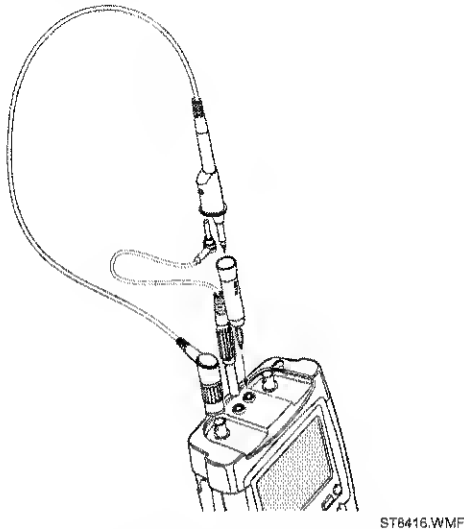

Figure 5-9. 10:1 Probe Calibration Connection
1. Connect the red probe from the red Input A BNC to the banana jacks. See figure 5-9